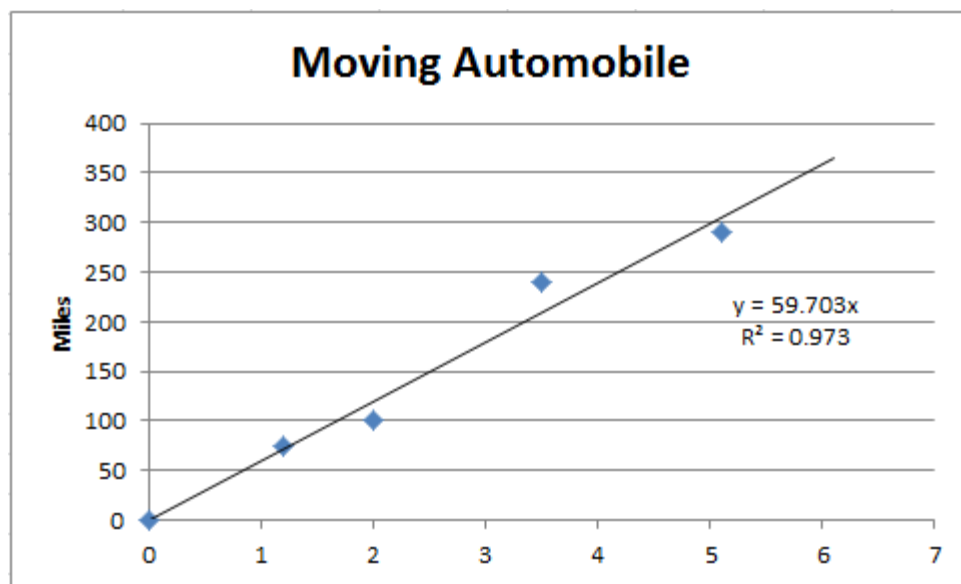

Figure 3.37. Scatter chart with trend line
6. Click the line formula and R^2 value to select them. Drag them below the trend line to a more open part of the chart. Click outside the chart to deselect it. Compare your Chart with Figure 3.37.